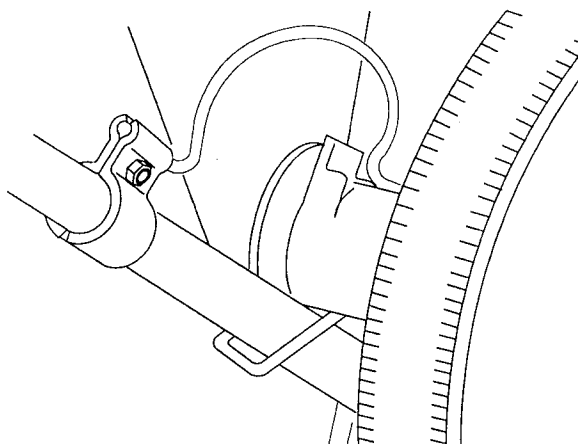

Figure 99
- D. Rotate the spring and insert its end into the hold-down clamp (Fig. 99).
1. Pull the hold-down spring out of the clamp (Fig. 99).